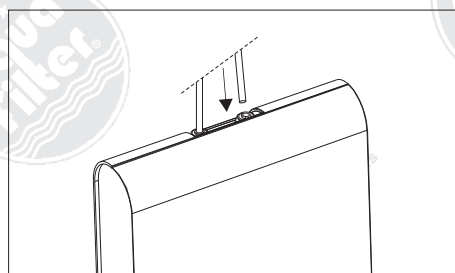

Fig. 2 Connecting flexible tubing with [OUT] connector
- 6) Connect other end of flexible tubing with connector [OUT] (white ring) (Fig. 2).